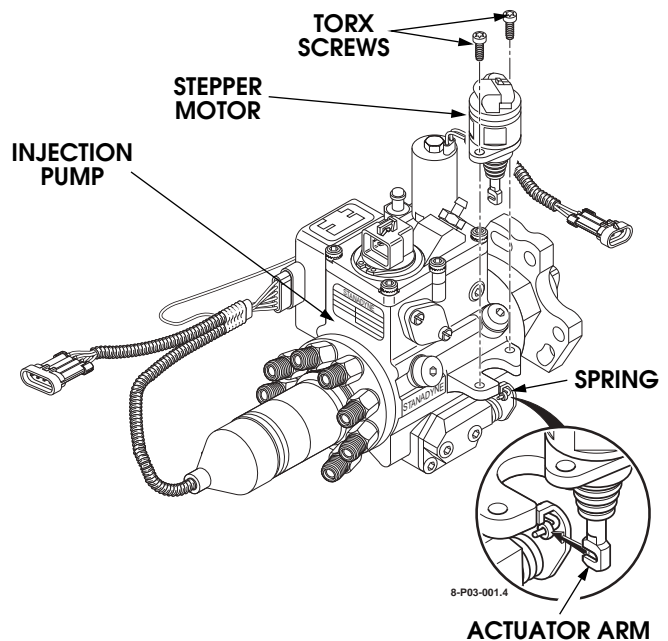

Figure 3-18: Stepper Motor Replacement
2. Remove the two torx screws retaining the stepper motor, disconnect the actuator arm from the spring and remove the stepper motor from the injection pump (Figure 3-18).